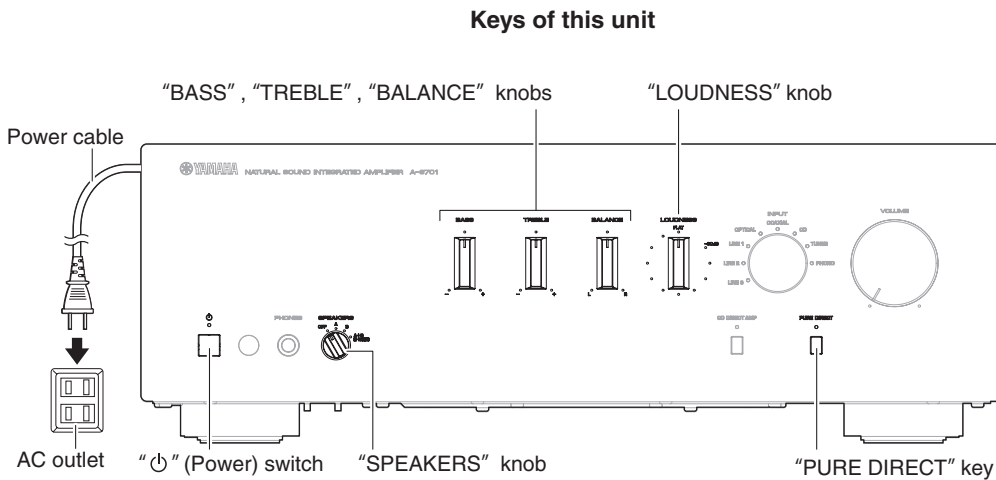

Fig. 1
1. Press the "⏻" (power) switch to turn off this unit. (Fig. 1)
2. Connect the power cable of this unit to the AC outlet. (Fig. 1)
3. Set the "SPEAKERS" knob to the "OFF" position. (Fig. 1)
4. Set the "BASS", "TREBLE" and "BALANCE" knobs to the top positions. (Fig. 1)
5. Set the "LOUDNESS" knob to the "FLAT" position. (Fig. 1)
6. Press the "⏻" (power) key to turn on this unit. (Fig. 1)
8. Repeat pressing the "PURE DIRECT" key 6 times within 15 seconds. (Fig. 1)